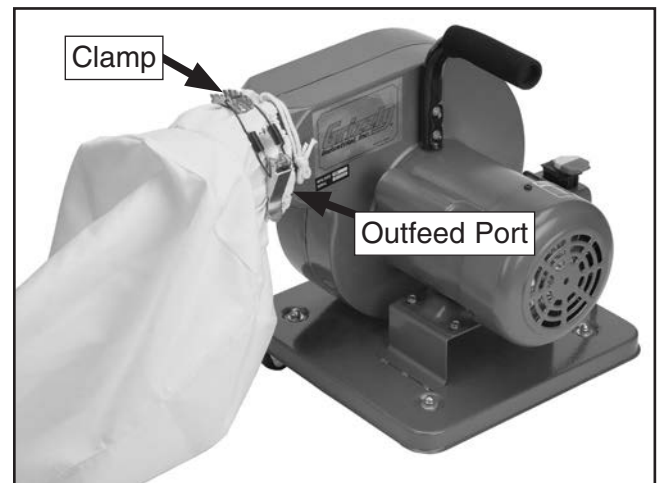

Figure 11. Attaching the collection bag.
4. Fit the collection bag over the outfeed port, and secure it with the provided clamp, as shown in **Figure 11**.